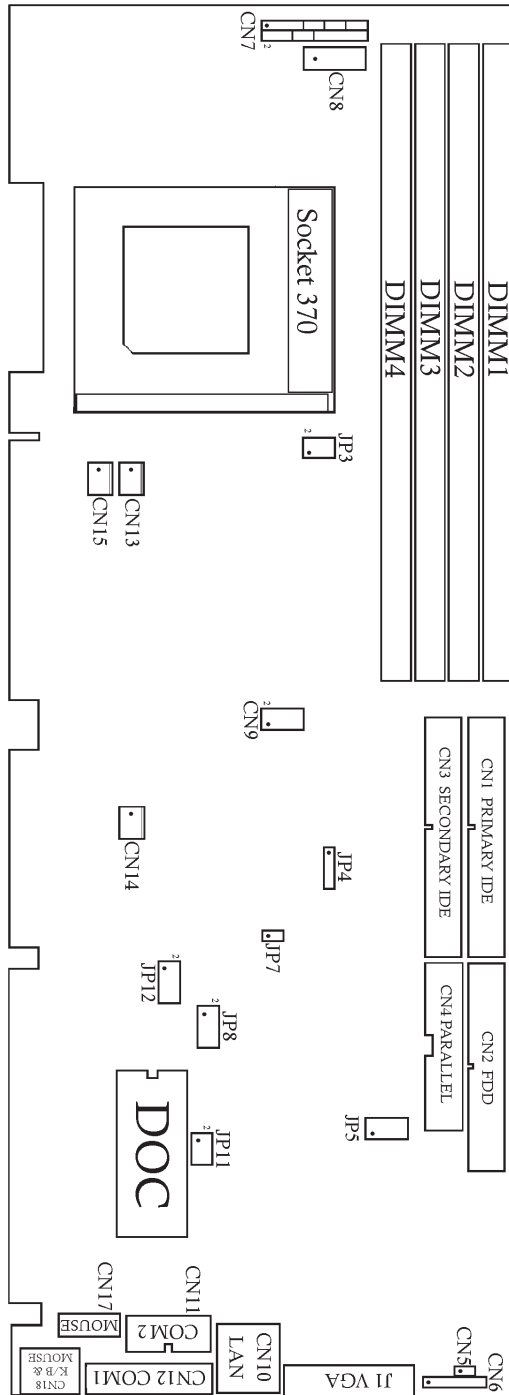

Figure 2. SBC-370
*Refer to figure 2 for the location of JP3.
Refer to figure 2 for the location of JP8.
Refer to figure 2 for the location of JP5.
Refer to figure 2 for the location of JP12.
Refer to figure 2 for the location of JP11.
Refer to figure 2 for the location of JP4.
Refer to figure 2 for the location of JP7.
The SBC-370 is equipped with a 34-pin daisy-chain drive connector cable. For the location of this connector, refer to CN2 in figure 2.